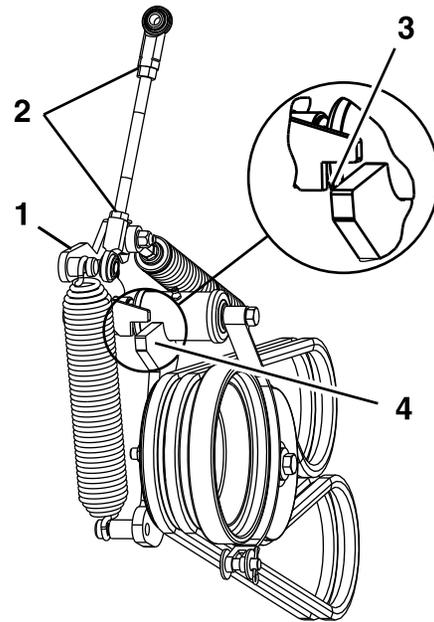

Figure 58
13. Loosen the jam nuts and adjust the linkage until the top of the idler arm is aligned with the bottom of the notch on the tension arm as shown in Figure 58.